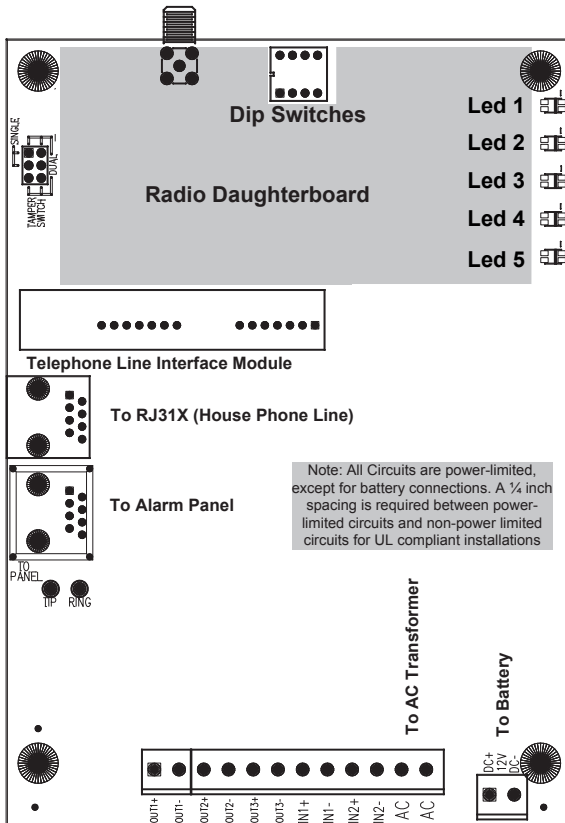

FIGURE 1: PARTS ON THE 4550-CF PC BOARD
1. Open the enclosure's door. Locate the four (4) mounting holes. Use the enclosure as a template to mark where to drill holes for the screws and anchors that will hold the enclosure in place on the wall.
3. Go to the red, 4-position Dipswitch as shown in Figure 1 and set the dipswitch as appropriate for this installation (table on page 16).